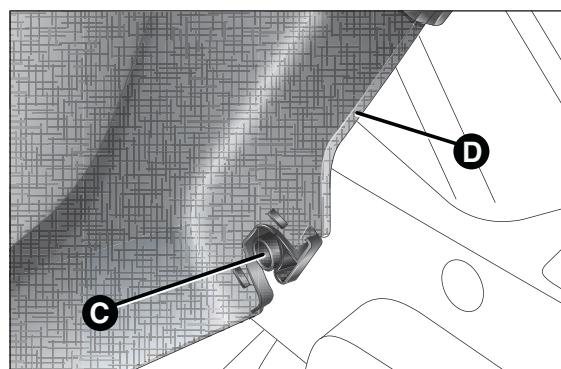

fig. 54
- ☐ free the pins C fig. 54 outside the shelf then remove the parcel shelf D sliding it off outwards;